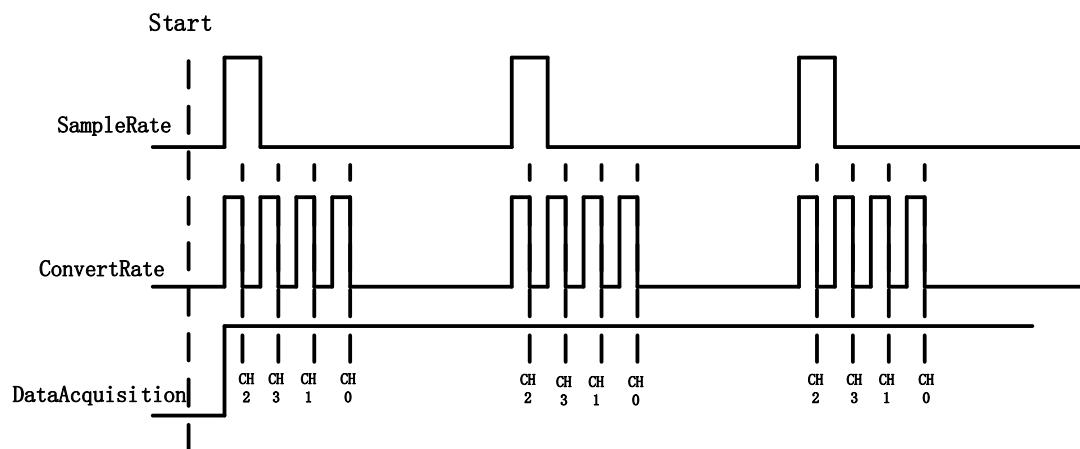

Figure 6 Sample Rate and Internal AD Conversion
*Channel Count:* how many channels you want to collect data. You can set up the channels in different orders, for instance 2,3,1,0. The acquired data will be arranged in the way you specify as shown in Figure 6. In this particular case, *Channel Count* is 4.